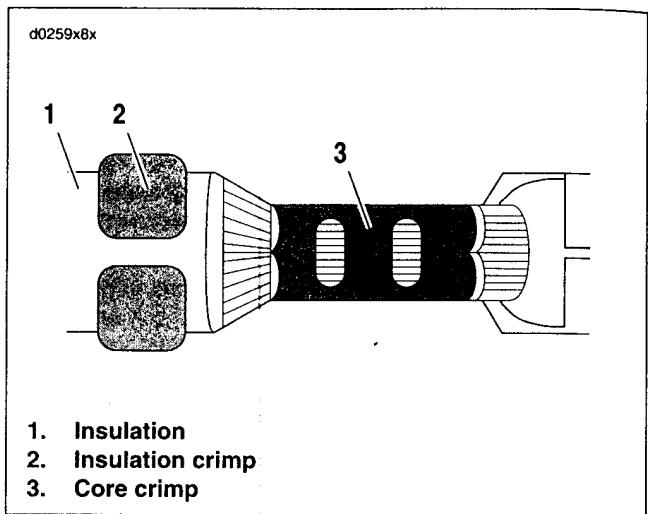

Figure B-22. Inspect Core and Insulation/Seal Crimps
11. See Figure B-22. Inspect the quality of the core (3) and insulation/seal (2) crimps. Distortion should be minimal.